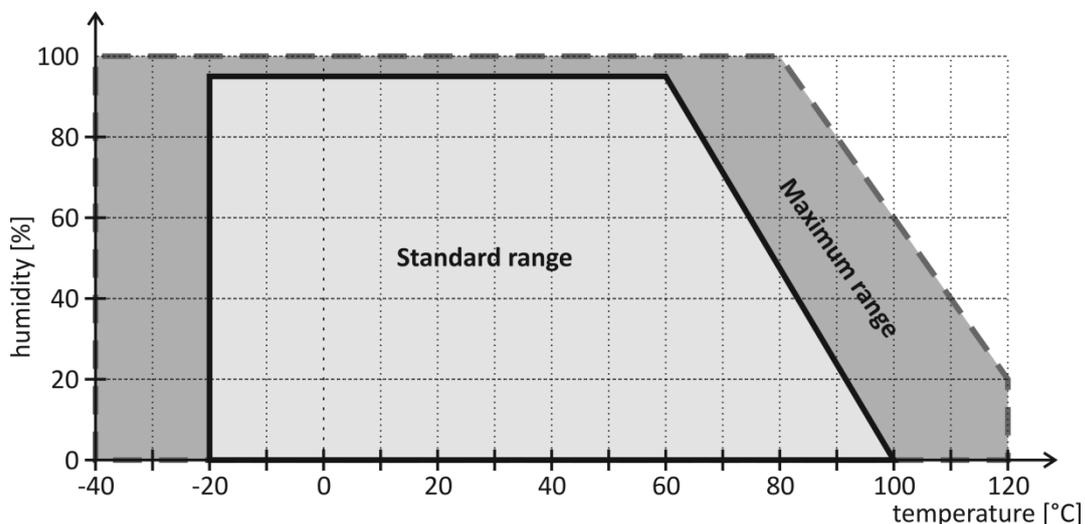

Fig. 13 – working and maximum temperature range
- Sensor is stable in standard range of values (see Fig. 13). Long-term exposure to conditions outside these values (humidity above 80% in particular) can temporarily shift the measured-out values (by +3% for 60 hours). When the sensor is back to standard ranges, it returns to its pre-calibrated state slowly.5